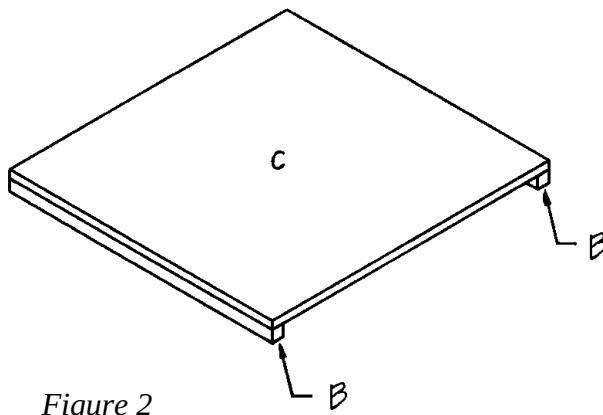
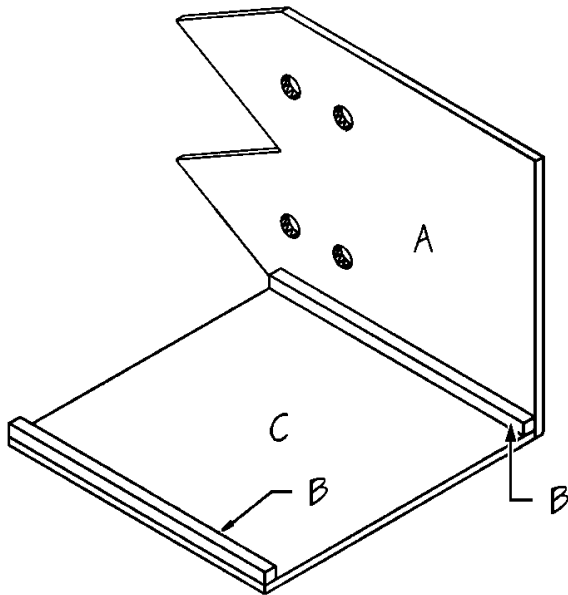
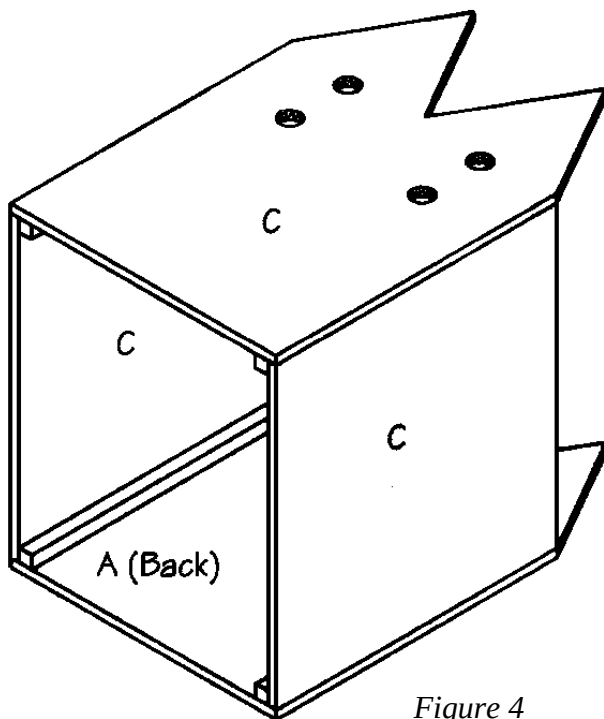

Figure 2
Figure 3
Figure 4
surface. Place the Front (A) perpendicular to the Side (C), matching the 17" edges, as shown in *Figure 3*. Make certain that the outside edges are flush, then apply glue to the meeting surfaces, and nail through the Front (A) into the Corner Supports (B) using four evenly spaced 1-1/4"-long finishing nails.
3. Cut four Corner Supports (B) from 1 x 1 pine, each measuring 17" long.
4. Cut two Sides (C) from 1/2"-thick plywood, each measuring 17" x 18".
5. Place two Corner Supports (B) parallel to each other and 16-1/2" apart. Place one Side (C) over the Corner Supports (B), matching 17"-long edges, as shown in *Figure 2*. Apply glue on the meeting surfaces, and nail through the Side (C) into the Corner Supports (B) using four evenly spaced 1-1/4"-long finishing nails.
6. Repeat Step 5 to attach the remaining two Corner Supports (B) to the remaining Side (C).
7. Place the Side (C) [with Corner Supports (B) on the top] on a level surface. Place the Front (A) perpendicular to the Side (C), matching the 17" edges, as shown in *Figure 3*. Make certain that the outside edges are flush, then apply glue to the meeting surfaces, and nail through the Front (A) into the Corner Supports (B) using four evenly spaced 1-1/4"-long finishing nails.
8. Repeat Step 7 to attach the Back (A) to the opposite side of the Side (C).
9. Position the remaining Side (C) over the assembly, aligning the 17"-long edges, as shown in *Figure 4*. Apply glue to the meeting surfaces and nail through the Side (C) into the Corner Supports (B) using 4 evenly-spaced 1-1/4"-long nails on each joint.